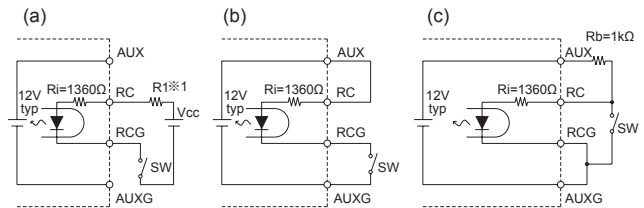

Fig.1.3 Examples of connecting method for remote ON/OFF
■The remote ON/OFF function can be operated by sending signals to CN3. Please see Table 1.2 and Table 1.3 for specifications and Fig.1.3 for connecting examples.
①The output stops when a current flows to RC.
②The current flown to RC is a 15mA max.
③If the output voltage is turned off through the remote ON/OFF circuit, the WRN signals and the PG signals keep "Low".
④Description in this section is based on the assumption that you will use one unit alone. If you are planning to use the units in parallel operation or use multiple units for a single system, please check necessary voltage and current values.
Table 1.3 Specifications of remote ON/OFF (Case of Fig.1.3)